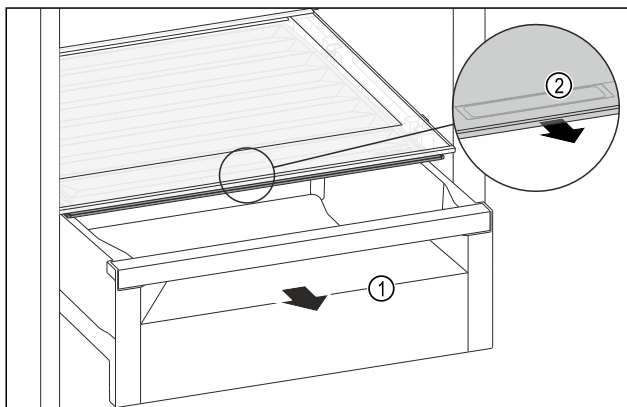

Fig. 137
- Pull out the drawer Fig. 137 (1).
- Grip the handle recess Fig. 137 (2) on the lid while pulling the lid forward at the same time.